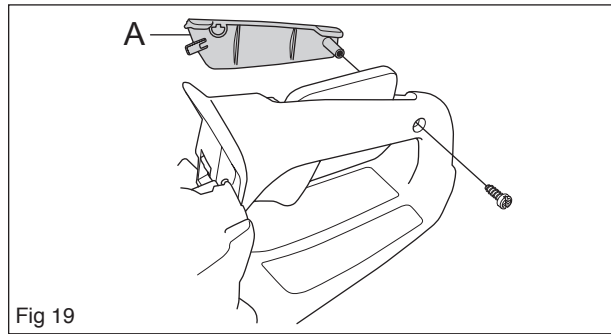

Fig 19
Loosen the screw on the rear handle. Remove the handle insert (A). See figure 19.